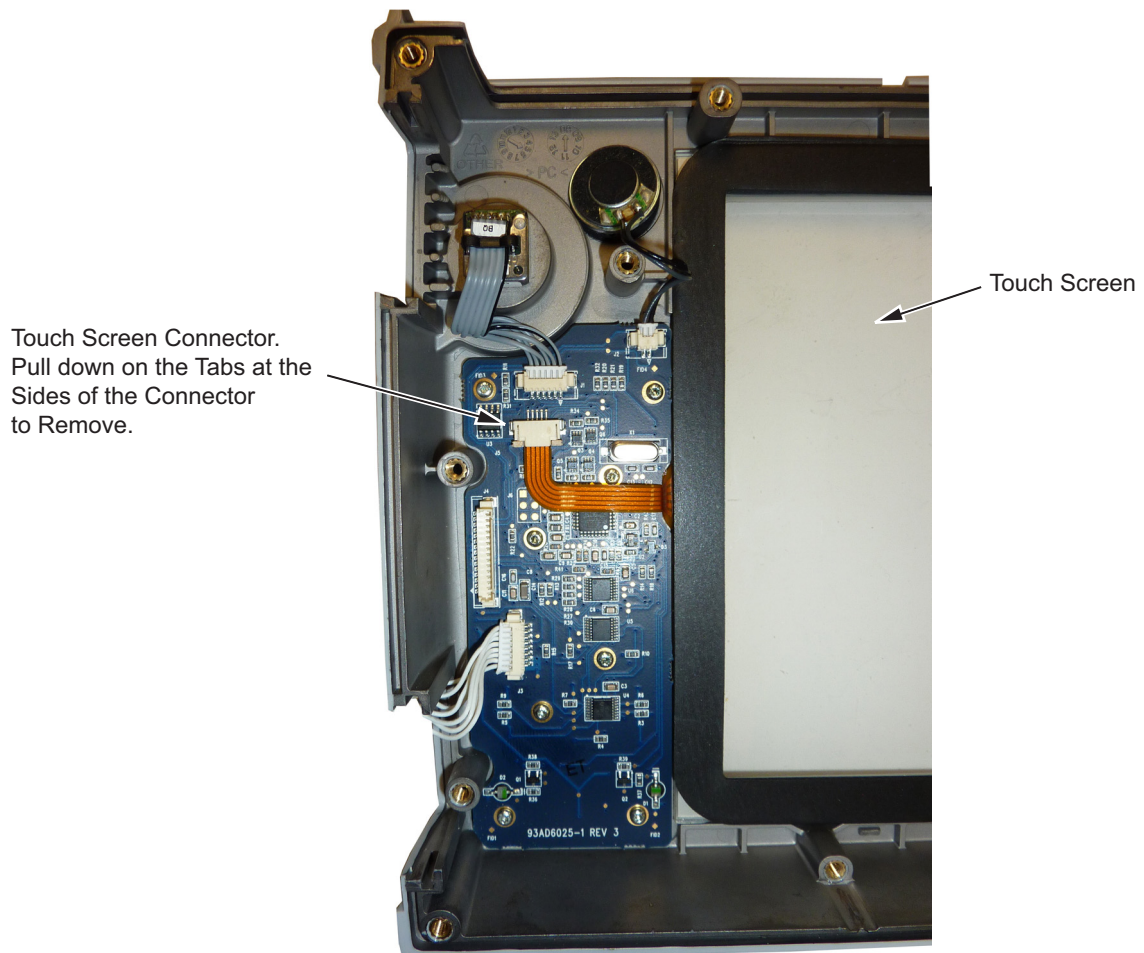

Figure 4-38. Replacing the Touch Screen
5. Remove the touch screen flex circuit connector from the Keypad PCB by pulling the tabs on each side of the connector away from the connector and in the direction of the flex circuit. Refer to Figure 4-38.